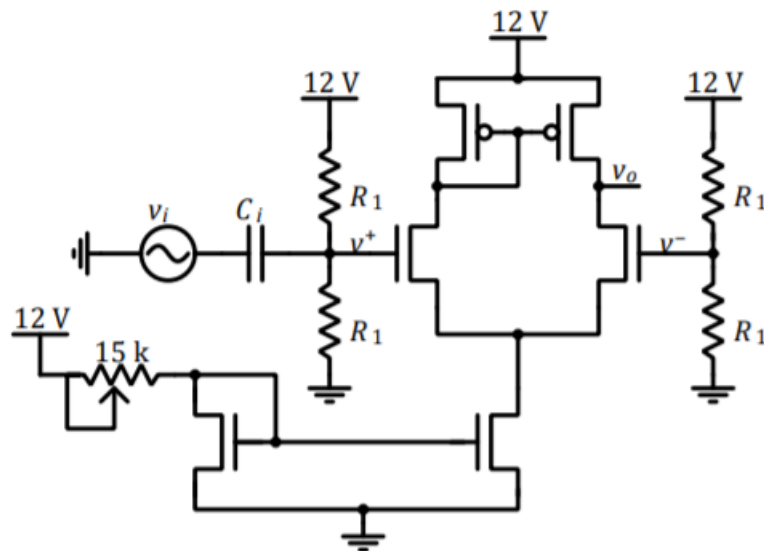

Figure 2: CMOS differential amplifier.
1. We Connected the circuit of a CMOS differential amplifier as Figure 2 on a breadboard using CD4007 IC for the MOSFETS. We used the current mirror set to provide 1 mA as in the previous sub experiment.